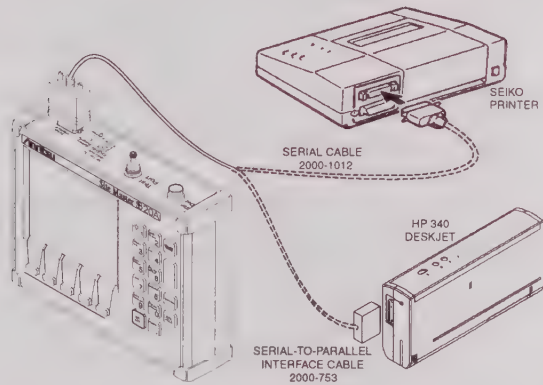

Figure 2-9. Printer Setup
Printing is accomplished with either of two printers: the Seiko DPU-414 thermal printer or the Hewlett Packard DeskJet 340 ink jet printer. Figure 2-9 shows a setup diagram for these two printers. Refer to the printer manual for setup details.
- Step 1.** Connect the printer as shown in Figure 2-9.